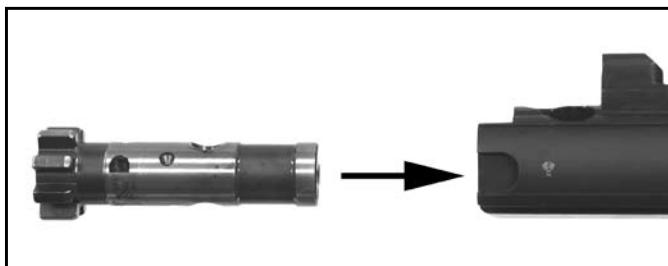

Fig. 44 – Bolt Carrier reassembly
- a. Slide the bolt head into the bolt carrier until the circular mounting surface for the cam pin on the bolt heads aligns with the front of the raceway on the bolt head carrier. Pointed down range, the extractor should be on the right hand side of the bolt carrier and ejector should be on the left (Fig. 44).